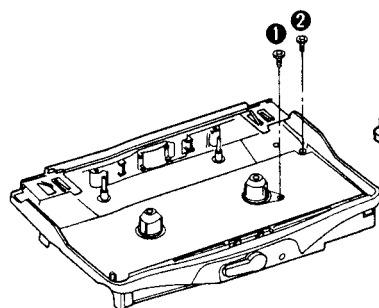

Fig. 8
2. Remove 2 screws (①~②). (See Fig. 8.)